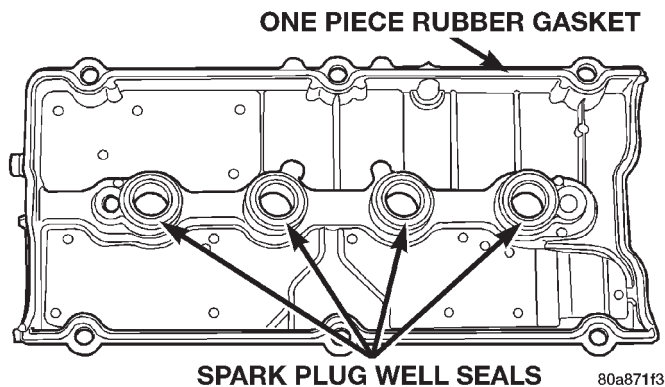

Fig. 29 Cylinder Head Cover Gasket and Spark Plug Seals
- (1) Clean all sealing surfaces.
- (2) Install new cylinder head cover gaskets and spark plug seals (Fig. 29).